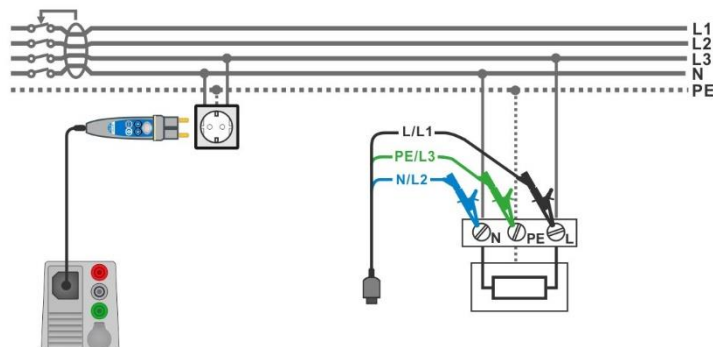

Figure 7.33: Connecting the Plug commander and the 3-wire test lead
- › Connect L, N and PE of 3-wire test lead or Plug commander to the object under test, see **Figure 7.33**.
- › Connect 3-wire test lead or Plug commander to the object under test, see **Figure 7.33**.
<ul style="list-style-type: none"> Enter the RCD Auto function. Set test parameters / limits. Connect test cable to the instrument. Connect 3-wire test lead or Plug commander to the object under test, see Figure 7.33 Start the measurement. 	Start of test